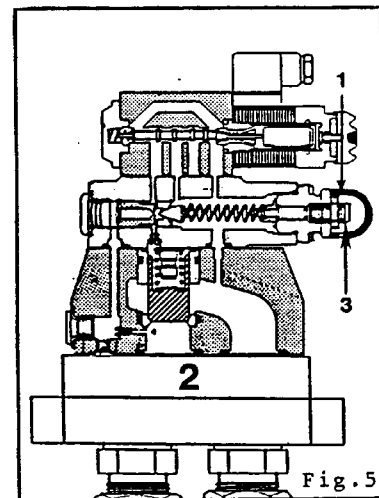

Fig. 5
2. (See fig. 5) This is the normally open relief valve. (Normally open denotes that unless the coil is energized, the relief valve will not develop any pressure.) This is the valve that opens up when you hit the red emergency shut off button on the remote control box or operators panel. On the prints, this is shown as being
set at 320 bar, and we will reset this pressure to 340 bar, using adjustment screw 3, (fig. 5)
- B. At valve 2, remove the plastic cap (Item 1, fig. 5), and set off to the side. Loosen the locknut, then turn in (clockwise) the set screw one full turn. This will raise the pressure much too far here, also.